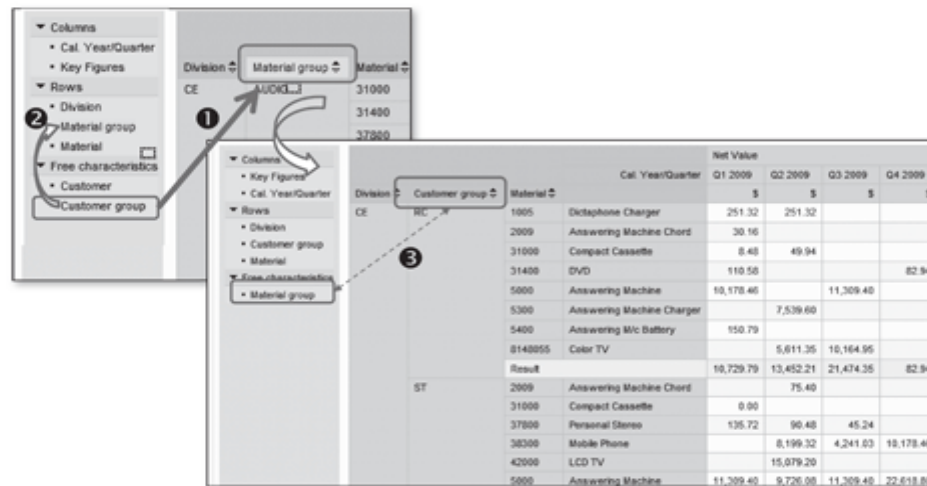

Figure 10.50 Navigation: Swap Characteristic
- ▶ **Swap characteristics:** To swap characteristics, drag the characteristic and place it on the characteristic with which it has to be swapped. You can drag and drop in the analysis table (❶ of Figure 10.50) as well as in the navigation pane (❷). In the example shown in Figure 10.50, the customer group characteristic is swapped with the material group characteristic (❸).